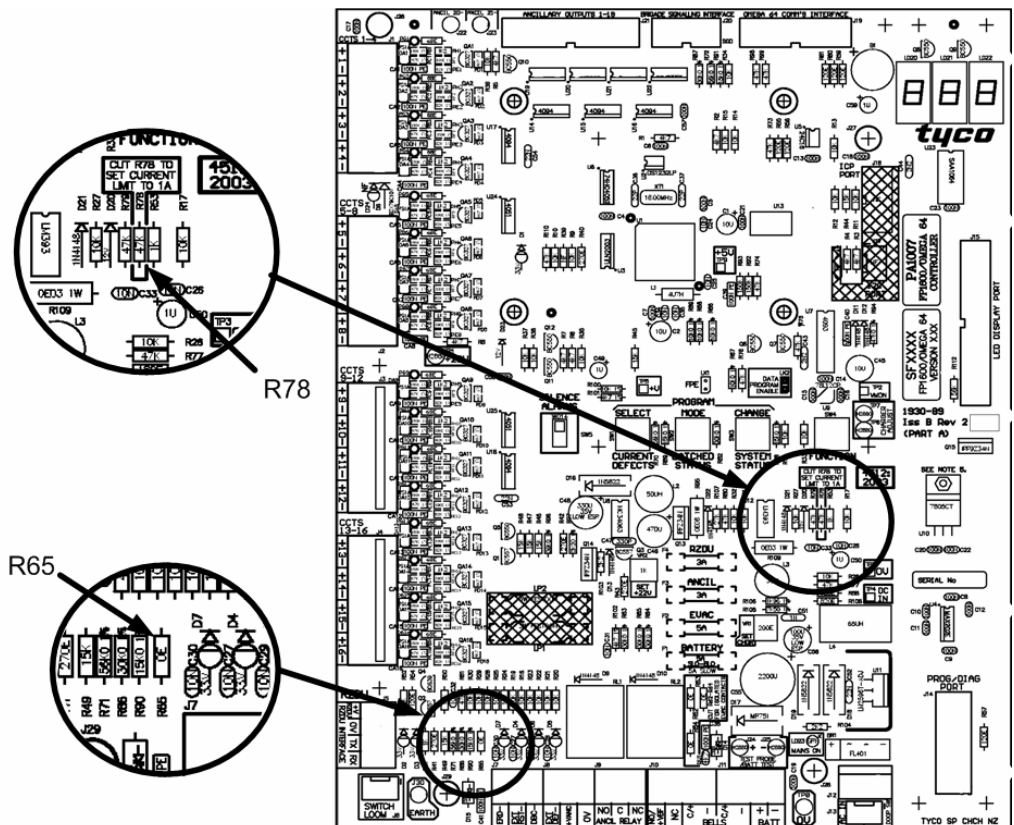

Figure 3 - Locations of R65 (lower left corner) and R78 (centre right)
3. On the new Master Board, carefully cut off R78 (see Figure 3). This adjusts the battery charger current limit value down to 1A to match the Mk1 mains transformer.
- a. Hide it – by cutting resistor R65 off the new Master Board (see Figure 3), earth fault detection is disabled and the defect indication will go away. However, the fault will still be there. Earth faults are usually indications of incorrect wiring or damage to field cabling, and therefore of future problems.